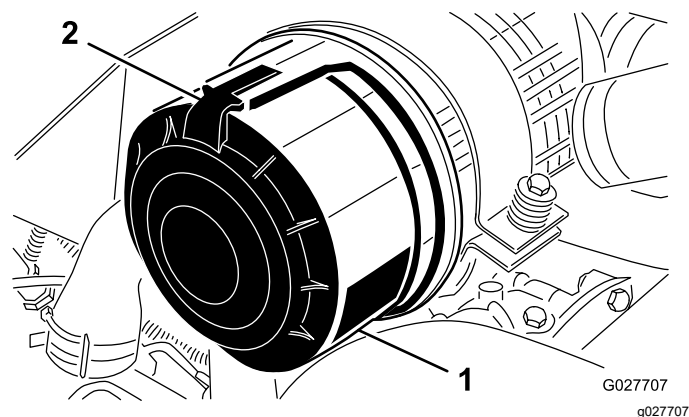

Figure 57
1. Release the latches that secure the air-cleaner cover to the air-cleaner body (Figure 57).